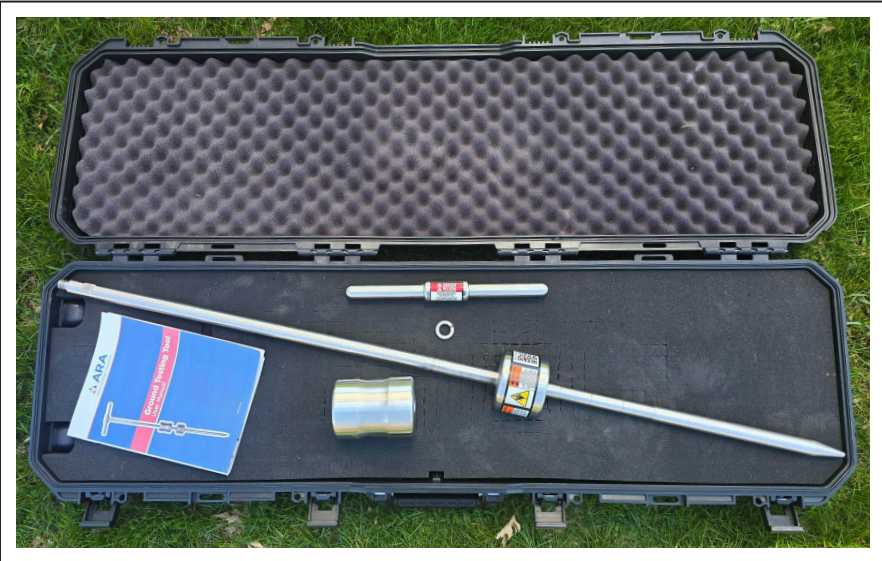

Fig. 5: Placement of GT Tool components in the case to ensure even weight distribution.
- 6. Place the GT Tool components back into the case, ensuring it is positioned securely, weight evenly distributed, and properly stored for future use. See fig. 5.